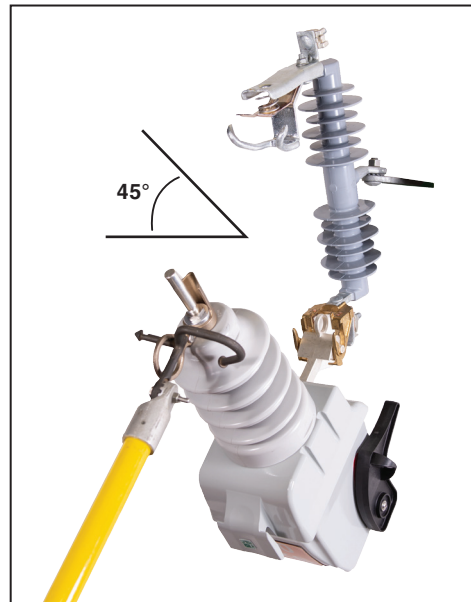

Figure 3. Angle to achieve before closing.
- STEP 3.** Swing the VacuFuse interrupter to within approximately 45 degrees of the **Closed** position. See Figure 3.